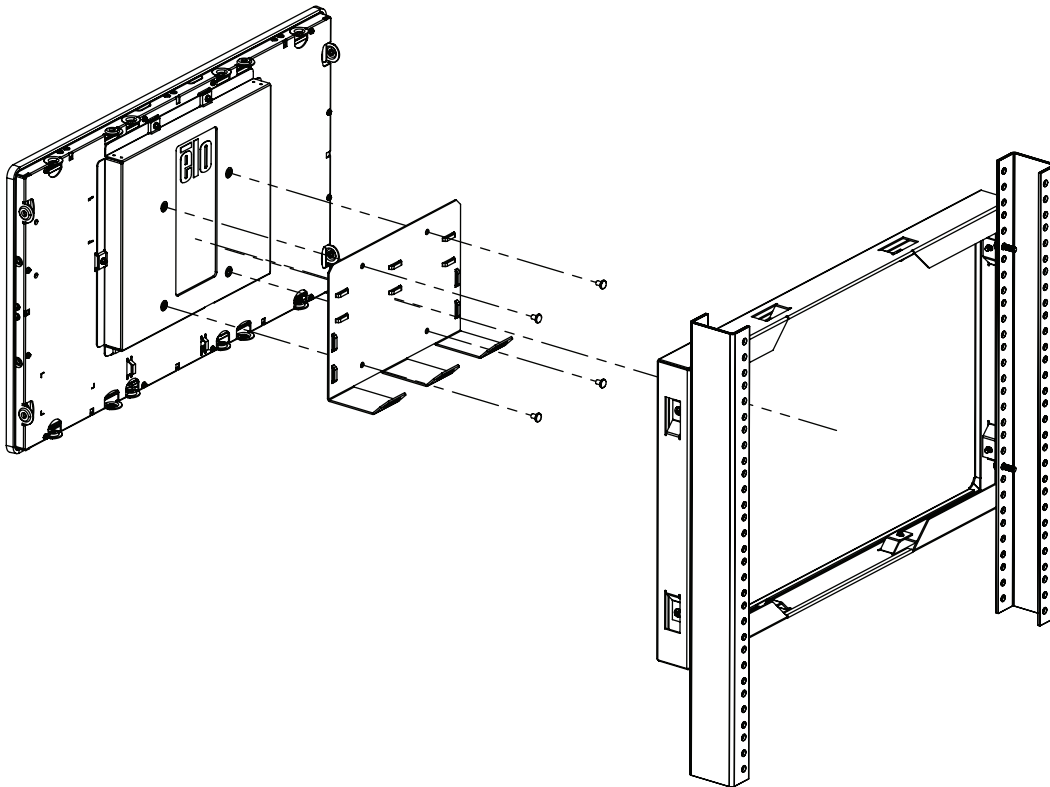

Figure 2 Attach the Power Supply Bracket to the Touchscreen Monitor
Step 3. Align the power supply bracket with the VESA mounting holes on the back of the touchscreen monitor, and use the supplied M4x6 mm screws to attach the bracket (see *Figure 2*).